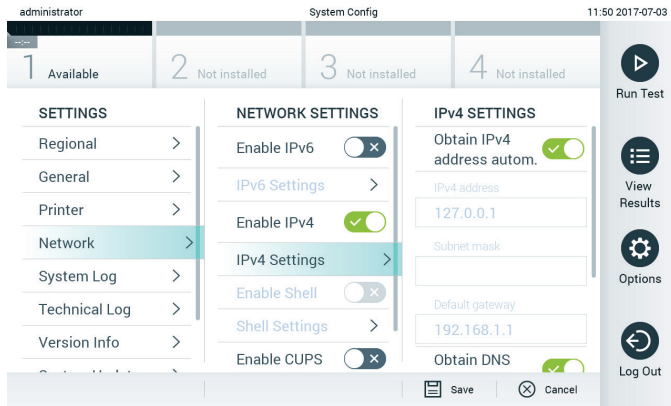

Figure 62. Configuring the network settings.
2. Select **Network** from the settings list in the left column (Figure 62, next page).